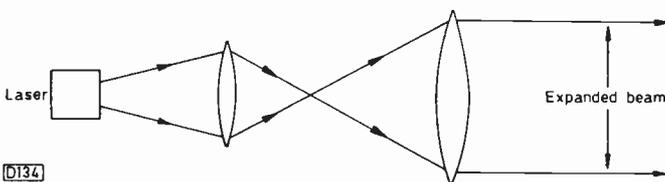

Fig. 3: Principle of the collimator lens.
**Fig. 3 (left):** Display produced with the yoke pushed forward for purity adjustment. Complementary colours will be present between the primary colour areas. Adjust the purity rings to centralise the red area.
The next factor to deal with is beam landing. With the red raster still displayed, square up the display as far as you can then push the yoke as far forward as possible to produce the display shown in Fig. 3 – red in the middle with green and blue on either side. This effect is present because the deflection angle is incorrect. The red section of the display should be at the centre of the screen. If it isn't, use the purity magnets to move it to the correct position. Move the two purity rings together in a scissor
By the time the laser's beam reaches the collimator lens it's elliptical in shape and is diverging. The collimator lens is used to correct the divergence, adjust the beam diameter and shape it into a circle. The principle of the collimator lens is shown in Fig. 3.
The tracking servo keeps the beam on the correct track section – as shown in Fig. 3 last month, the track pitch is only  $1.6\mu\text{m}$ . Those familiar with CD players will be aware that in most cases the laser assembly is carried across the disc on a motor-driven sled. This arrangement is sufficient for coarse tracking, but the motor and gear assembly cannot possibly work to a precision of  $1.6\mu\text{m}$ . In addition the disc may be slightly eccentric on its axis, making the track "wobble" as the disc rotates. The tracking servo therefore controls not only the sled motor but also the current in the tracking coils. The current flowing in these coils produces radial movement of the lens assembly. Radial lens movement of typically  $\pm 70\mu\text{m}$  is achieved by the coils: once this movement is at its extreme the sled motor operates briefly, restoring the lens to its central position. This joint action of the sled motor and the radial drive can be likened to the operation of a linear tracking tone arm on a conventional audio disc player.